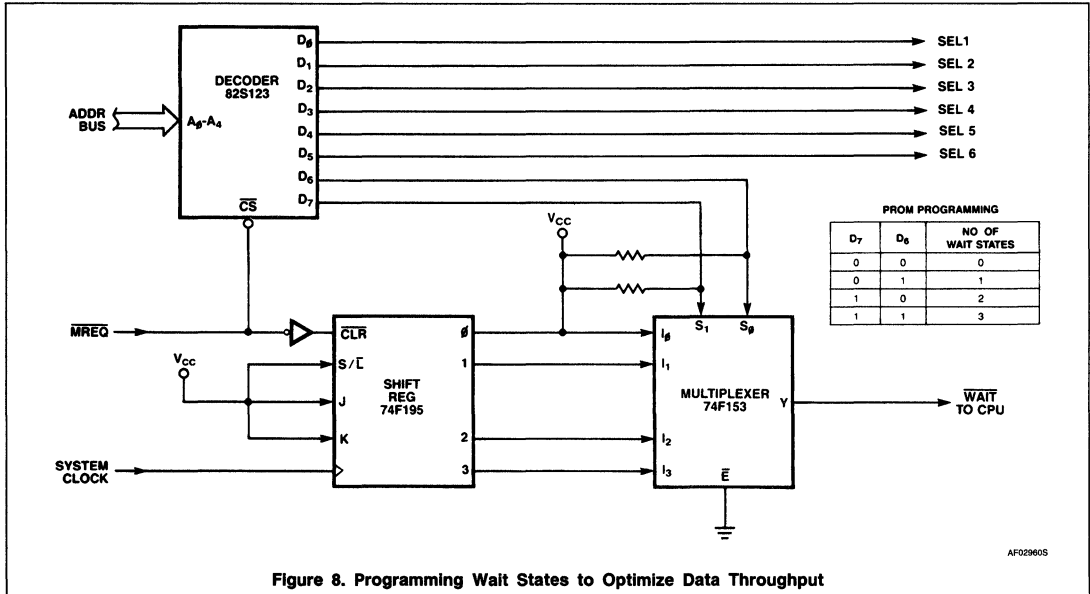

Figure 8. Programming Wait States to Optimize Data Throughput
- Mount the SMB connector with flat side out rather than point side out. See Figure 8.
namic RAM via interleaving, and minimizing leakage problems when driving open-collector buses. Figures 8 through 11 show how Signetics ICs can be used to solve interface problems of this type.
A similar technique is used in Figure 8, to accomplish bit manipulation without using the data bus. Each bit is associated with two addresses. If A_0 is High, the bit is set High; if A_0 is Low, the bit is set Low. With this approach bit-manipulation is faster and re-